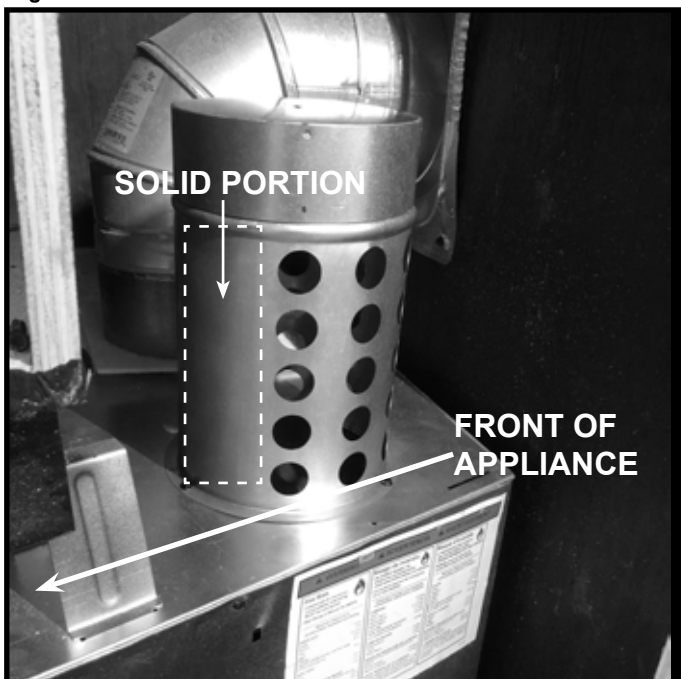

Figure 8 Attach Adapters
3. Center adapter over opening with the solid portion facing the front of the appliance. Attach both adapters to appliance by installing three screws per adapter. See Figure 8.